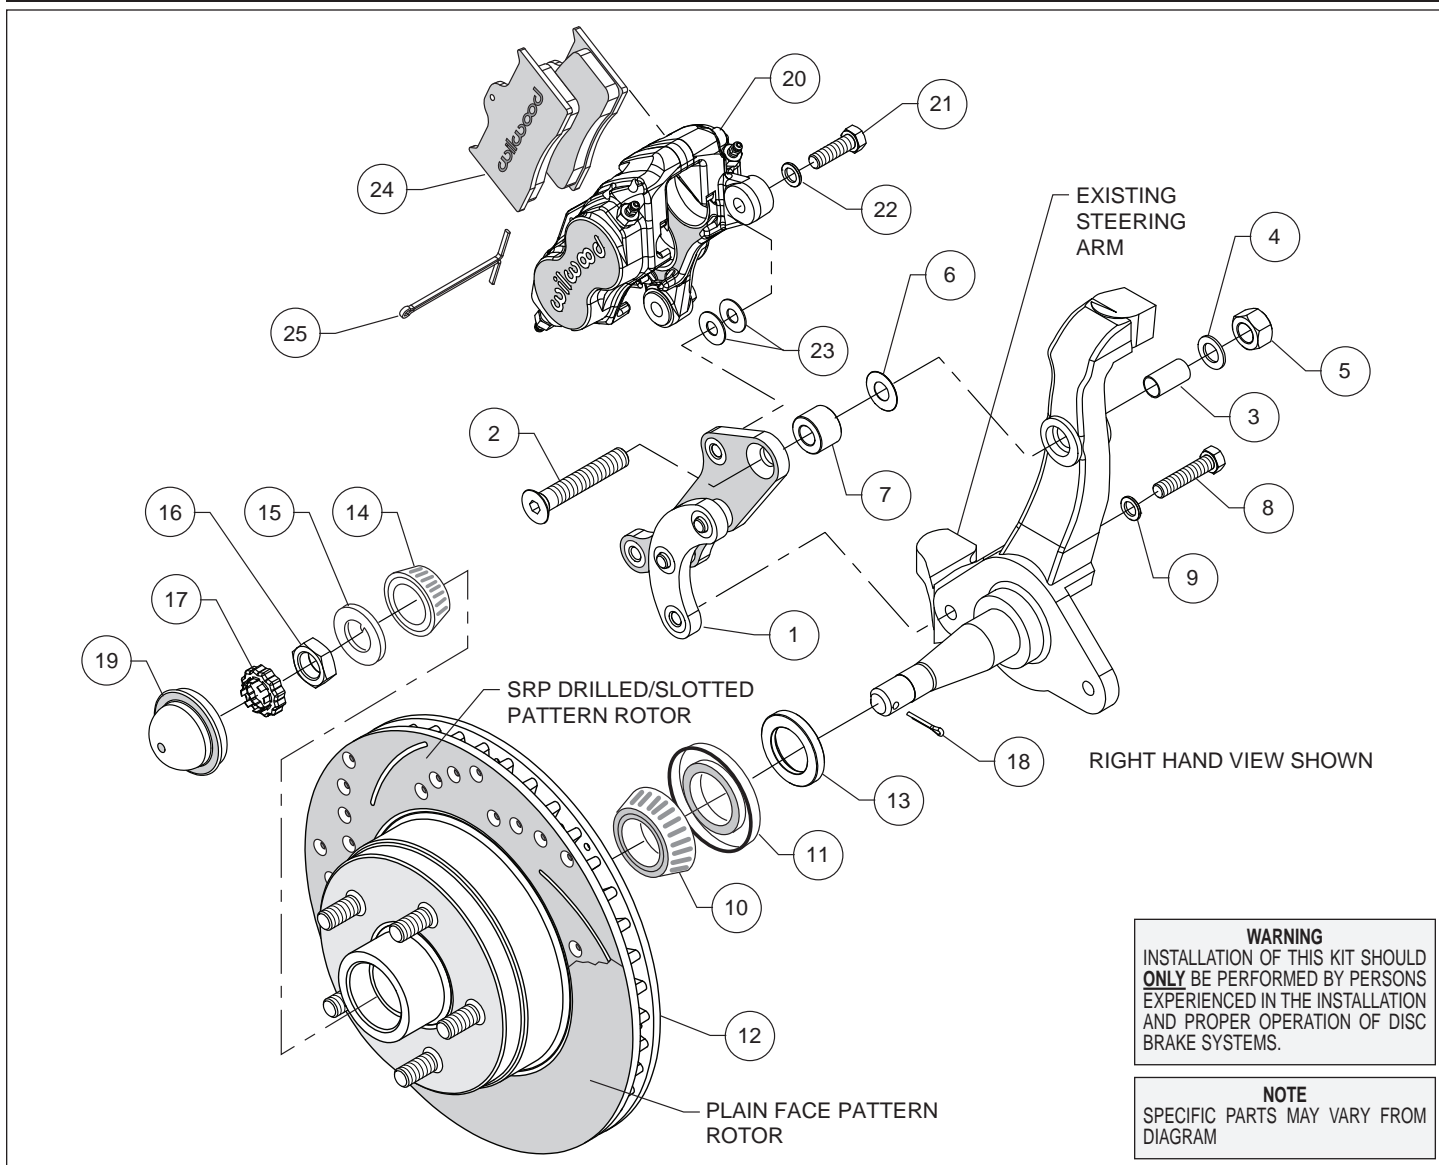
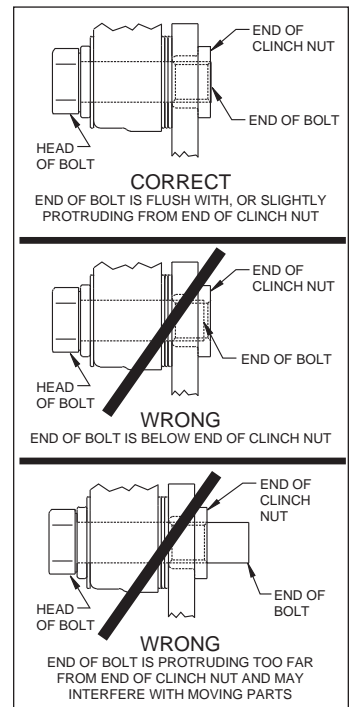

Figure 1. Typical Installation Configuration
Figure 3. Clinch Nut Engagement Diagram
**Assembly Instructions** (numbers in parenthesis refer to the parts list and Figure 1 on the preceding pages): **CAUTION:** All mounting bolts must fully engage clinch nuts. Be sure to check that all bolts are either flush or protruding through flanged side of clinch nut after shimming, Figure 3.
- The caliper bracket (1) should initially be installed with clean, dry threads on the mounting bolts. The bracket has been assembled at the factory for alignment purposes. Loosen the two bolts that secure the brackets together so that the bolts are hand tight only. This will enable the bracket assembly to be adjusted to accommodate various spindle tolerances during assembly. Insert sleeve (3) into top mounting hole on the spindle, Figure 1. Orient the bracket as shown in Figure 1 and install using bolt (2), washer (4), nut (5), in the upper hole. Place a .711" thick spacer (7) positioned between the bracket and spindle, as shown in Figure 1 and Photo 1. Initially use one .032" thick shim (6) on the upper bolt between the bracket and spindle, Figure 1. Install bolt (8) and washer (9) in the lower hole, Figure 1. Temporarily tighten the mounting bolts, followed by the two bracket-to-bracket bolts. **NOTE:** The bracket must fit squarely against the mounting points on the spindle. Inspect for interference from casting irregularities, machining ridges, burrs, etc. Later, after the bracket alignment has been checked, the bolts will be secured using red *Loctite*® 271.
- Pack the large inner bearing cone (10) with high temperature disc brake bearing grease (available from your local auto parts store) and install into the backside of the hub (12), Photo 2.
- Install the grease seal (11) by pressing into the backside of the hub (12), flush with the end of the hub.
- Slide the hub/rotor spindle spacer (13) onto the spindle. Ensure the chamfered I.D. faces inward, Photo 3.
- Temporarily install the hub/rotor (12) onto the spindle. Check that the caliper mounting bracket (1) is aligned parallel to the rotor, Photo 4. If not, adjust by adding or subtracting shims (6) on the upper bolt between spacer and spindle, Figure 1. Once the bracket alignment is correct, remove upper bolt, apply red *Loctite*® 271 to the threads, and torque to 77 ft-lb. Remove the lower bolt, apply red *Loctite*® 271 to the threads, and torque to 40 ft-lb.
- Remove hub/rotor and pack the small outer bearing cone (14) with high temperature disc brake bearing grease and install into the front side of the hub (12). Slide the hub/rotor onto the spindle. Secure using spindle washer (15), and spindle nut (16). Adjust bearings per OEM specifications. Install spindle nut retainer (17) and a new cotter pin (18), Photo 5.
- Press the dust cap (19) into the hub (12), Photo 6.
- NOTE:** Please reference the caution statement at the beginning of the assembly instructions. Mount the caliper (20) onto the caliper mounting bracket (1) using bolts (21) and washers (22), as shown in Figure 1. Initially place two .035" thick shims (23) on each bolt between the caliper and the bracket, Photo 7. Temporarily tighten the mounting bolts and view the rotor (12) through the top opening of the caliper. The rotor should be centered in the caliper, Photo 8. If not, adjust by adding or subtracting shims between the bracket and the caliper. Always use the same amount of shims on each of the two mounting bolts. **NOTE:** The end of each bolt must be flush with or slightly protruding from the head of the clinch nut, as shown in Figure 3. If necessary place spare shims between washer (22) and caliper mounting ear to achieve the proper clinch nut engagement. Once the caliper alignment and clinch nut engagement are correct, remove the bolts one at a time, apply red *Loctite*® 271 to the threads, and torque to 40 ft-lb.
- Install the disc brake pads (24) into the caliper, with the friction material facing the rotor (12), Photo 9. Secure in place using cotter pin (25), Photo 10.